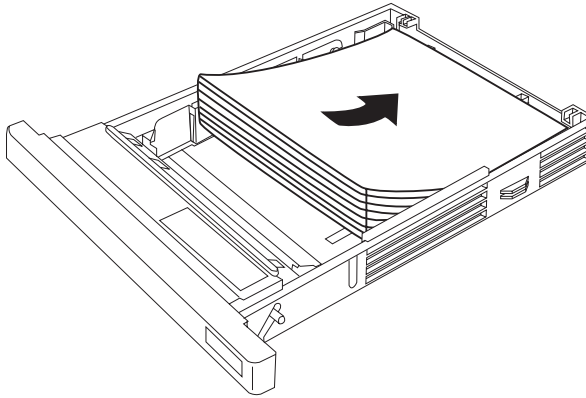

Fig. 4.8 *Place Paper Under Metal Clips*
3. Press down on the front of the stack to place it under the metal retaining clips at the front of the cassette. See figure 4.8.